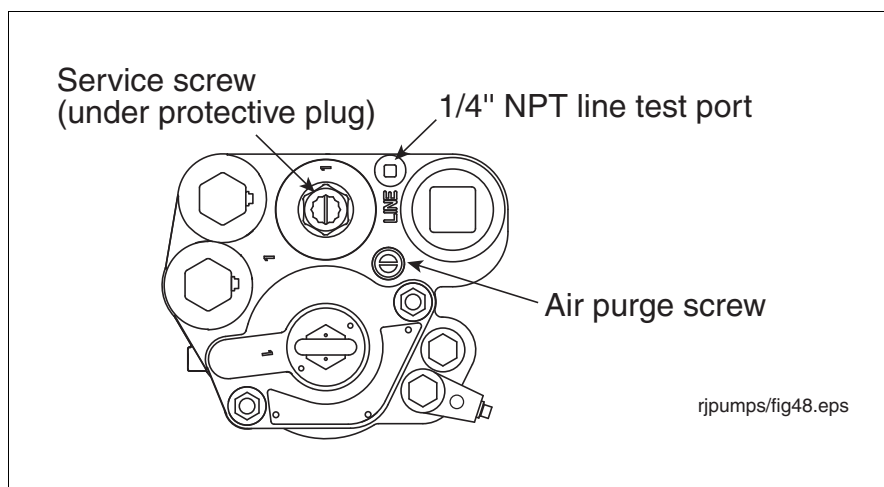

Figure 32. Locating Pump Line Test Port
- Pressure may be observed using a gauge attached at the impact valve or to the pump's line test port (see Figure 32).
2. Remove and save the protective plug over the service screw and turn the screw clockwise (see Figure 32). As the screw approaches its bottom position, you will hear the system depressurizing. Continue turning the screw until it can go no further. When the screw is all the way down, backoff the screw 4 turns to lift the check valve
3. Remove the line test port plug (see Figure 32) and attach test gauge.
4. Open the air purge screw 2 - 3 turns counterclockwise (see Figure 32).